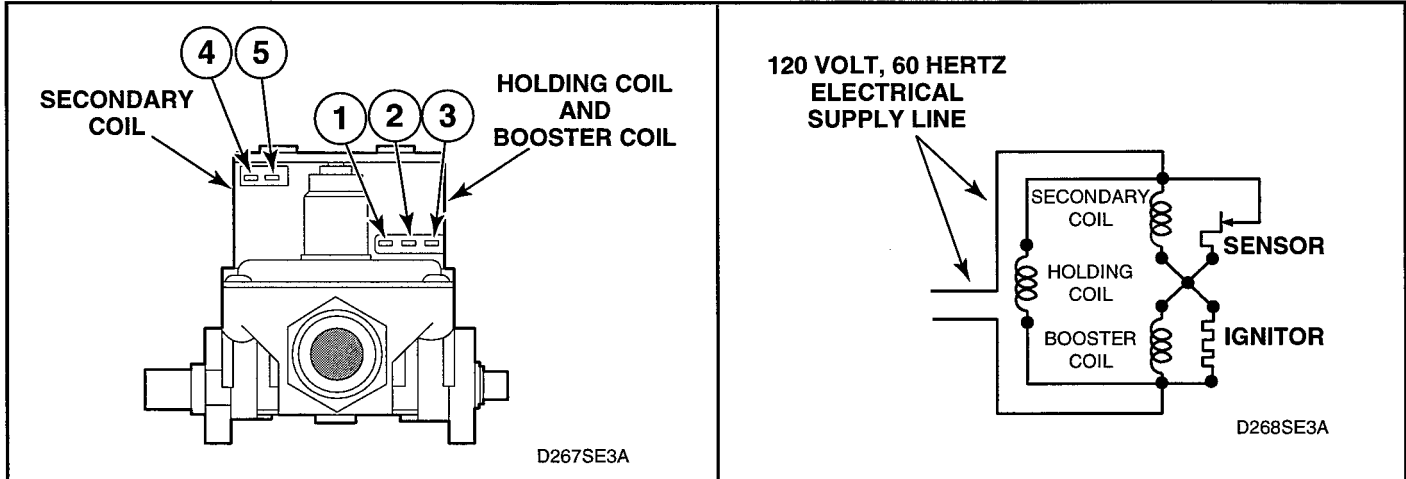

Figure 7-3
## 2. BURNER SYSTEM OPERATION (Figure 7-3)
## IGNITION SYSTEM FEATURES (Figure 7-3)
- Set test meter to read AC voltage and apply meter probes into terminals on the dryer harness plug that would correspond to terminals 1 and 2 on the coil. See figure 7-3. Meter should register line voltage in all Fabric settings, except FLUFF which should read "zero" VAC.